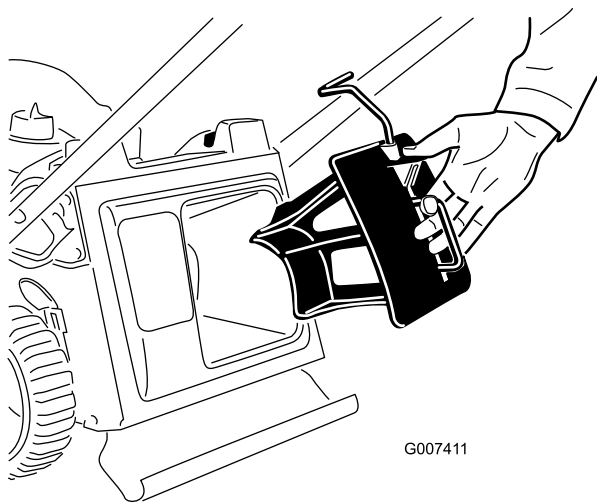

Figure 9
1. Insert the mulch plug into the machine if it isn't already installed (Figure 9).